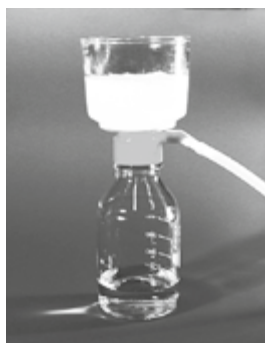

Figure 1 Correct use of the NucleoBond® Bottle Top Filter
- For the NucleoBond® AX 2000 (Mega) and AX 10000 (Giga) Column, use the supplied vacuum operated **NucleoBond® Bottle Top Filters** for filtration of the lysate. The bottle top filters (Figure 1) make the separation of the bacterial lysate and SDS precipitate easy, quick, and convenient. Adjust the bottle top filter to a suitable flask (e.g., Schott), load the bacterial lysate, and apply the vacuum. After 5 min the solution will have passed through. Load the resulting clear lysate onto the corresponding **NucleoBond® AX Column** and discard the bottle top filter.